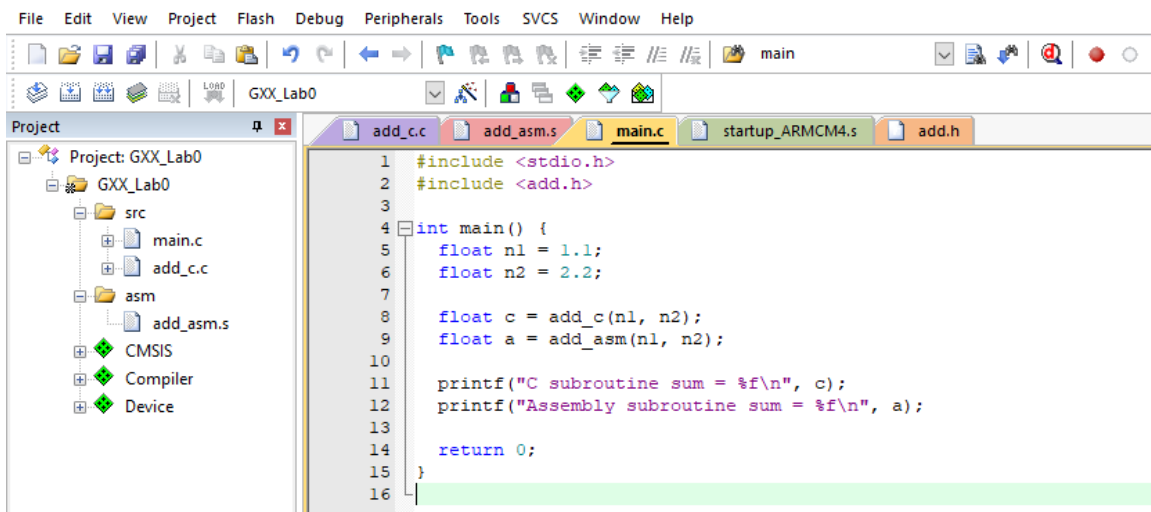

Figure 24: Modify the **main.c** file.
4. Finally, modify the **main.c** file as shown in Figure 24 and save it.